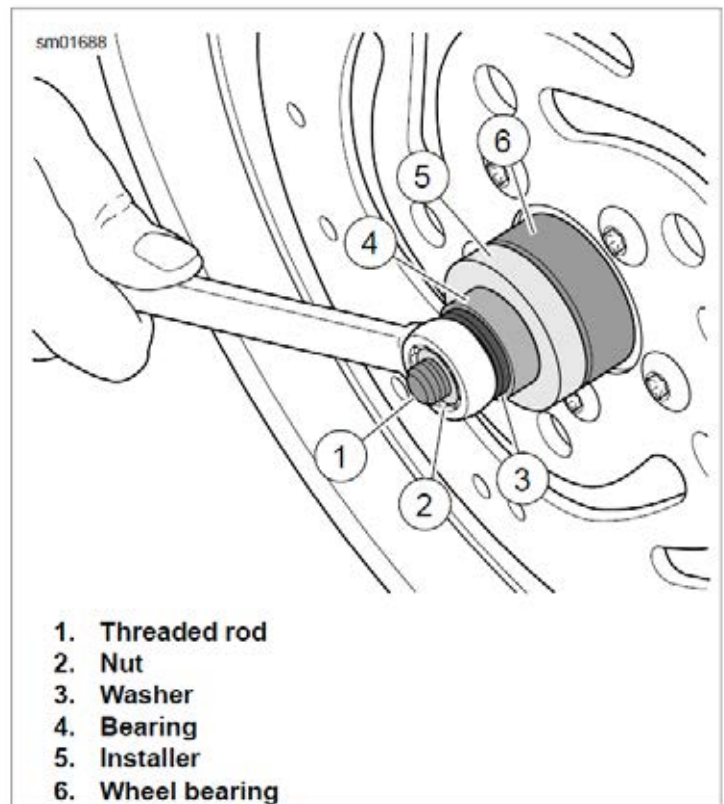

Figure 2-36. Installing Bearing
3. See Figure 2-36. Place the bearing on the rod.
- a. Standard bearing with the lettered side against installer (5).
- b. ABS bearing with greenish tan side against installer (5).
4. Install 1 inch installer (Part No. HD-44060-8) (5), bearing (4), flat washer (3) and nut (2) onto rod.
5. Hold hex on rod and turn nut (2) until bearing is fully seated.